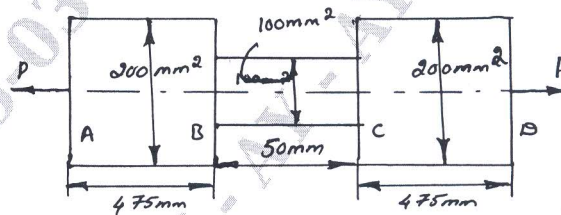

Fig.Q9(b)
b. The maximum stress produced by a pull in a bar of length 1m is  $150 \text{ N/mm}^2$ . The area of cross-section and length are shown in Fig.Q9(b). Calculate the strain energy stored in bar is  $E = 2 \times 10^5 \text{ N/mm}^2$ .